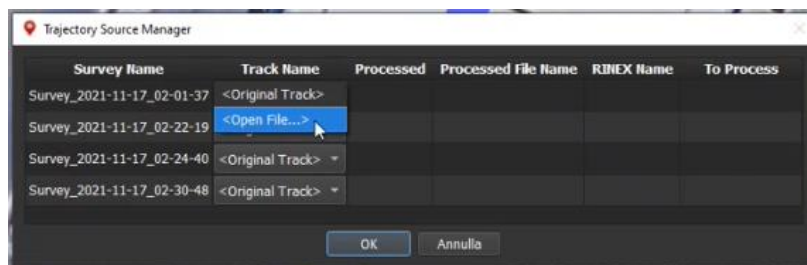

Fig. 81 – Tracks selection
3. Click on **Track Name** Tab associate to the APS Survey and select **<Open File...>** option from drop down menu (Fig. 81);